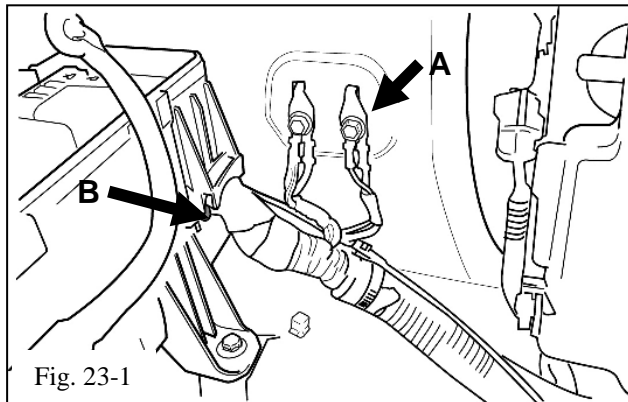
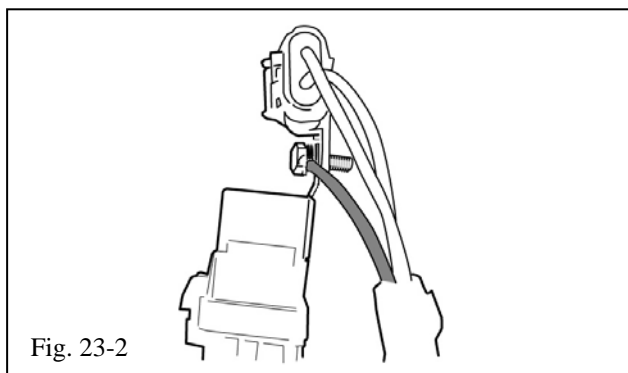
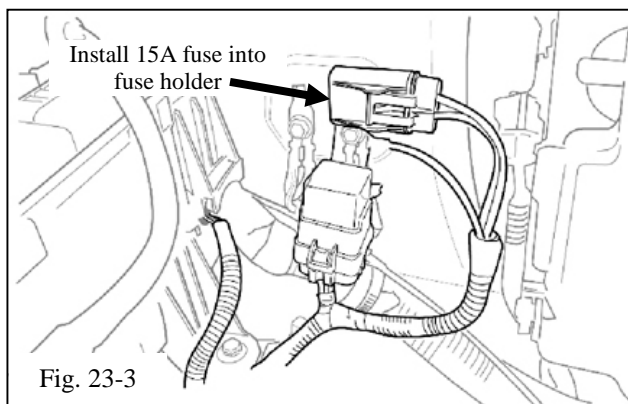
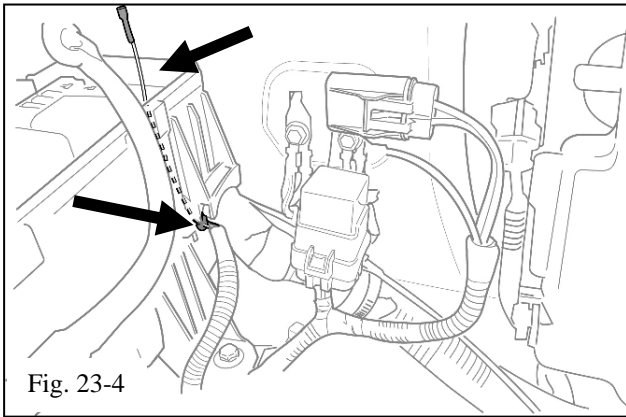

Fig. 23-1
Fig. 23-2
Fig. 23-3
Fig. 23-4
- (a) Go to the battery box area to see the ground point (A) and entry into the fuse box (B) (Fig. 23-1).
- (b) Remove bolt "A" and screw it into the fuse/relay assembly that is part of the wire harness (Item A2) (Fig. 23-1 & Fig. 23-2).
- (c) Make sure the bolt goes through the black ground wire eyelet first, then the metal bracket of the relay, and then the fuse bracket (Fig. 23-2).
- (e) Reinstall the ground bolt with the assembly attached back into grounding point "A" (Fig. 23-1 & Fig. 23-3).
- (f) Route the yellow wire of the relay wire harness (Item A2) into the vehicle fuse box through the opening “B” (Fig. 23-1 & Fig. 23-4).